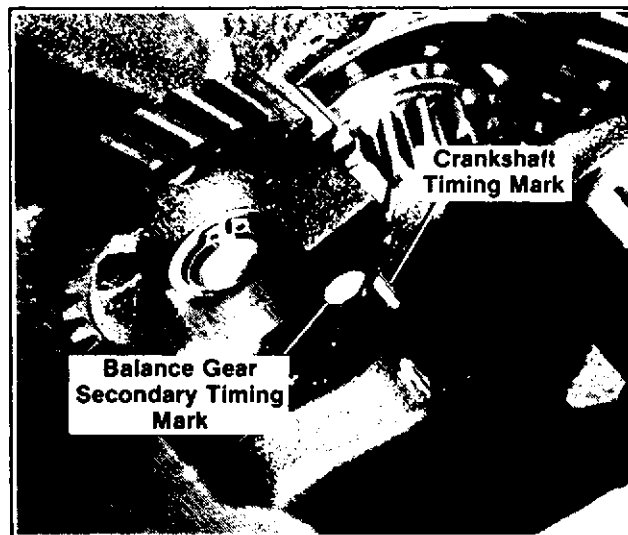

Figure 8-6. Final Check for Crankshaft to Balance Gear Timing
4. As a final check, turn crankshaft to see if standard timing mark on crankshaft lines up with the secondary timing mark on the bottom balance gear - if these marks cannot be lined up, timing is off and must be corrected (see Figure 8-6).
2. **Bottom Balance Gear-Bearing Assembly:** Rotate crankshaft until it is approximately 15° past BDC then slip one .010" spacer over stub shaft before installing bottom gear-bearing assembly. Align *secondary* timing mark on this gear with *secondary* timing mark (on counterweight) of crankshaft then install gear-bearing on shaft. Secondary timing mark will also be aligned with *standard* timing mark on crankshaft after installation, if properly timed (see Figure 8-6). Use one .005" spacer and one .020" spacer (largest next to retainer) to obtain proper end play of .002 to .010". Install snap ring retainer, then recheck and adjust end play as needed.